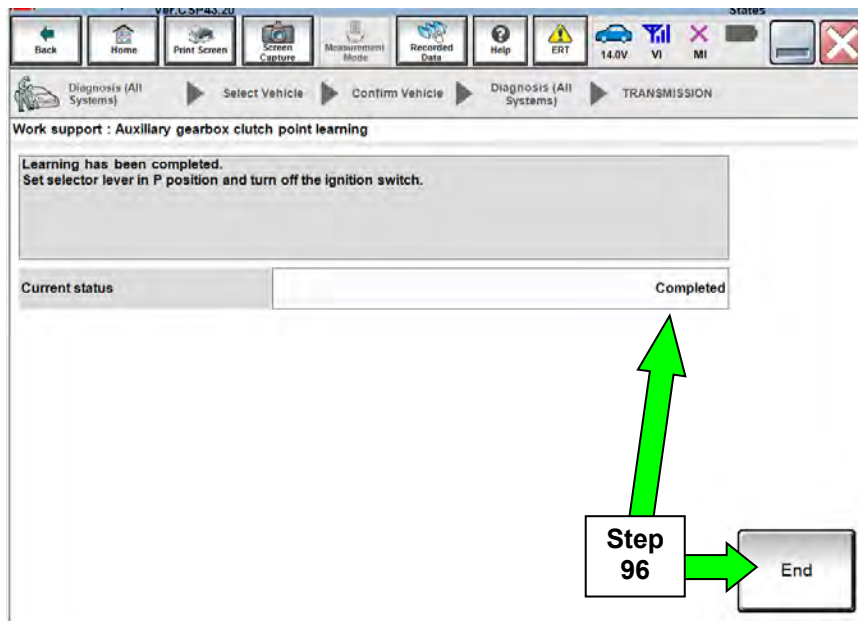

Figure 54
95. Continue to depress the brake pedal until the Current status shows “Completed” as shown in Figure 54 on the next page.